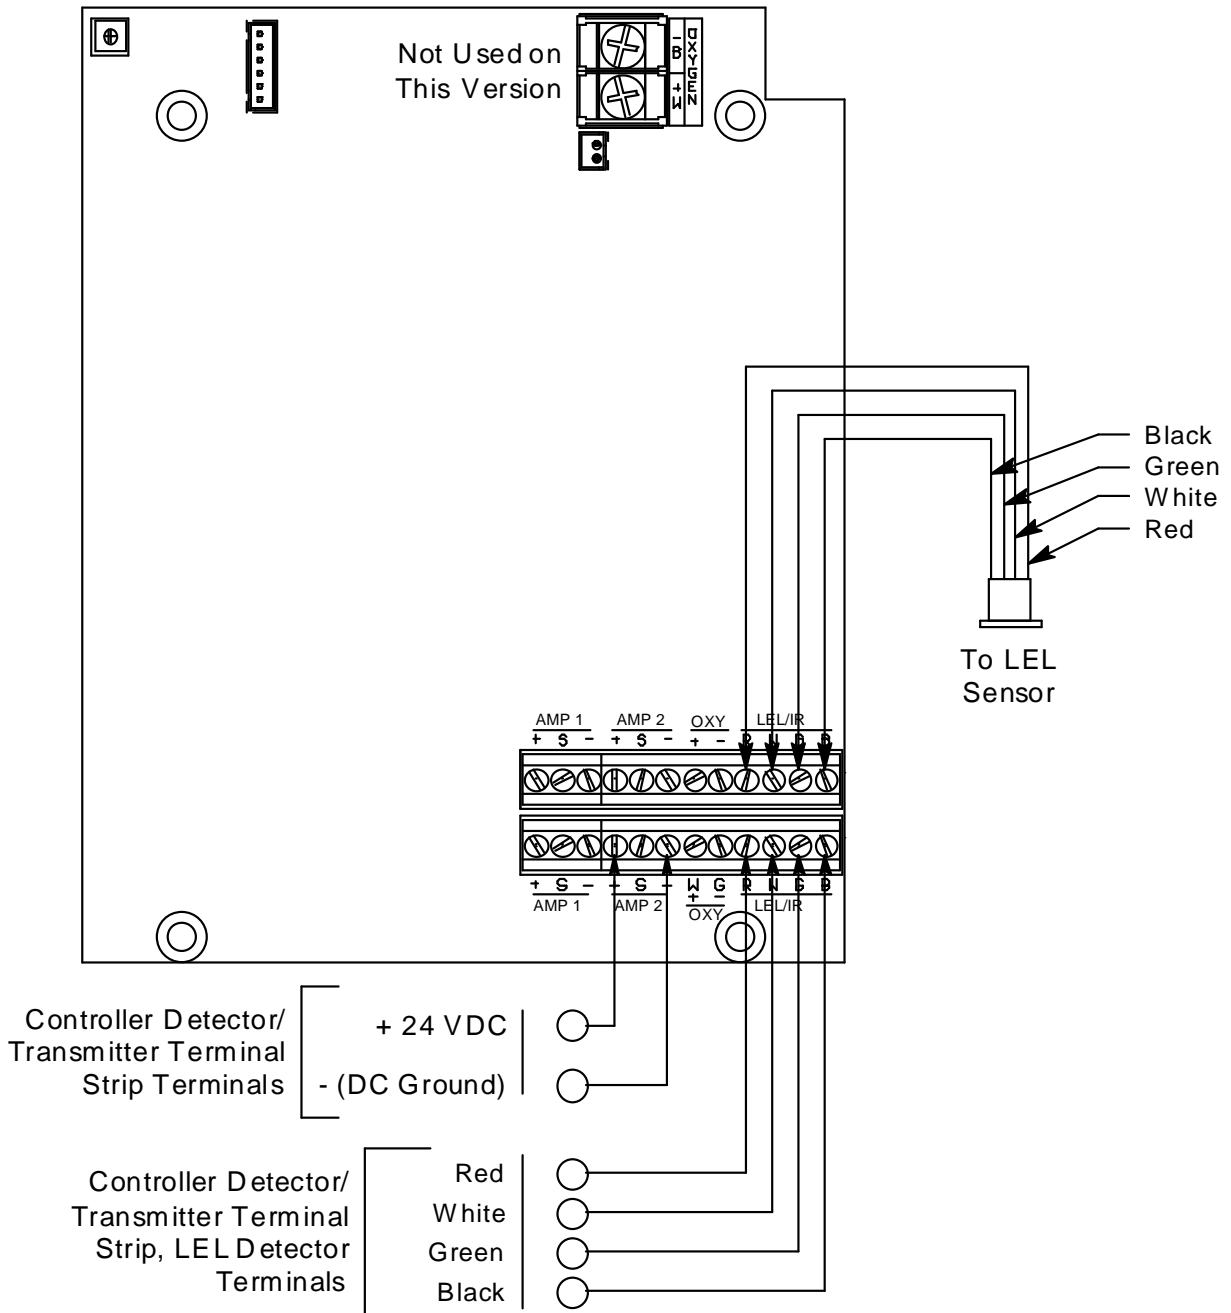

Figure 4: Wiring the Sample-Draw Detector to a Controller
5. Connect the cable to the sample-draw detector’s interconnect terminal strip as shown in Figure 4.
- Connect the wires to the applicable detector/transmitter terminal strip at the controller as shown in Figure 4. Refer to the controller operator's manual and the controller detector head specification sheet for the 35-3001-01 for detector/terminal strip connections specific to the controller.